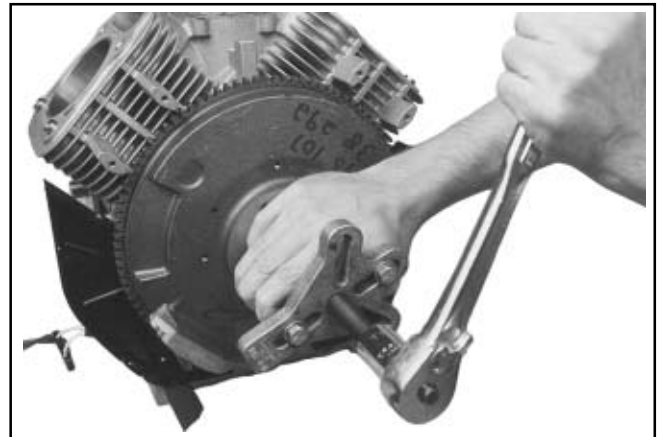

Figure 9-58. Removing Flywheel with a Puller.
3. Use a puller to remove the flywheel from the crankshaft. See Figure 9-58.